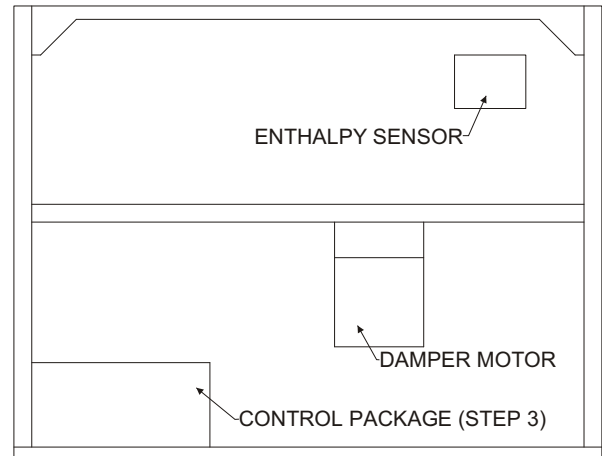

FIGURE 1
3. Remove box of controls to be installed over the assembly containing the logic control board and mixed air sensor. **See Figure 1.**